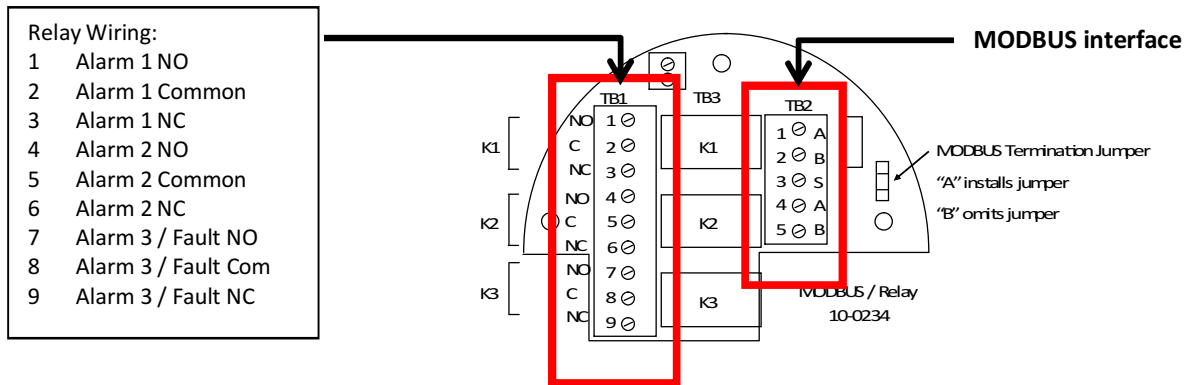

Figure 5-5: RELAY / MODBUS Connections
Access to the MODBUS RS-485 interface is via TB2 on the Relay / MODBUS board mounted on the back of the GDS-58XP display module (See Fig. 5-5). Separate input and output terminals for MODBUS “A” and “B” signals are available. A center terminal to tie incoming and outgoing shield connections is also provided.
MODBUS system architecture requires that the devices in any MODBUS loop be connected in a daisy-chain layout. This minimizes signal reflections and improves signal noise margin. A MODBUS Termination Jumper installs a load resistor across the MODBUS signal lines and should only be set to “A” (ON) at the last device in the string (See Fig. 5-5).
Alarm relays are dry contact SPDT and may be configured as normal or FAILSAFE (“normally open held closed”). Power must be supplied from an external source and should be fused. The normally-open, common and normally-closed contact wiring layout is shown in Figure 5-5.